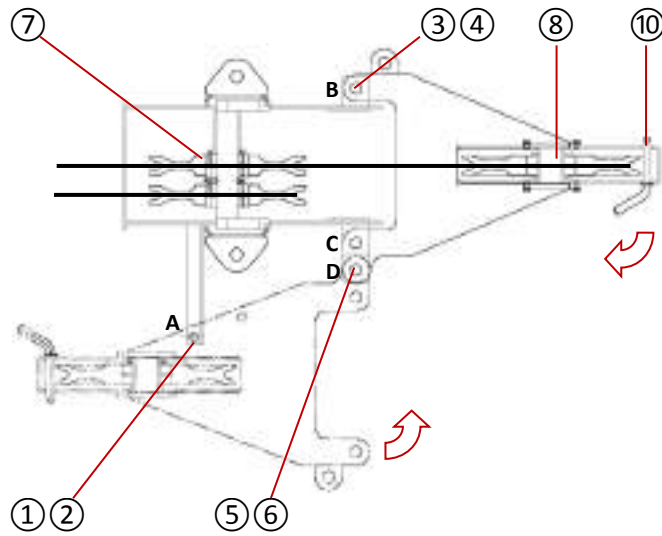

Fig.4
ATTENTION: the auxiliary hoist rope must always pass in the middle sheave of the head (position ⑦ of Fig.4) and in the sheave of the additional heavy duty jib (position ⑧ of Fig.4 and 5). It is not possible to operate with the lattice extension and the heavy duty jib installed simultaneously at the head of the boom.
2. Remove the split pin ① from the pin ②. Take out the pin ② from position A.
4. Insert the pin ③ into the support B and secure it with the corresponding split pin ④.
5. Remove the pin ⑤ from the D position and place it in position C.
6. Secure the pin ⑤ with the corresponding split pin ⑥.
7. Feed the rope through the sheave ⑦, in the sheave ⑧ and in the limit switch ⑨.
10. Check that the anti-slippage pins are mounted ⑩ and are secured with the corresponding split pins.